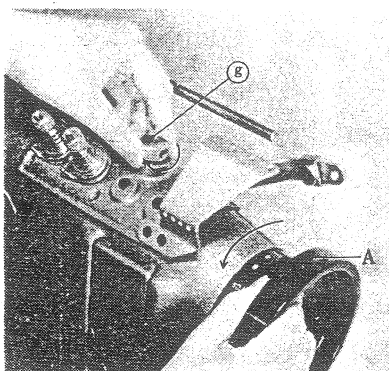

Fig. 25
Numeral numbers on the stitch indicator show the number of stitch per inch. To change length of stitch, turning parts (G, Fig. 25) toward right, at the same time turn balance wheel over toward you until plunger enters a notch in adjustable eccentric on arm shaft. Then, turn the (G) 1/4 turn.